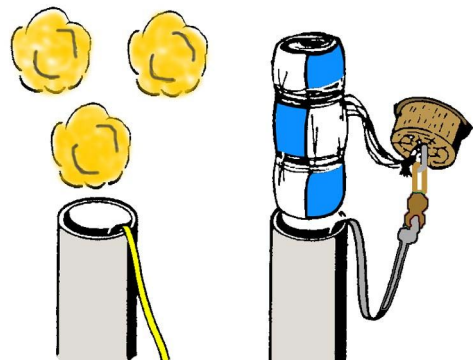

Fig. 14
- **Step 22** The correct method to pack your parachute into the model is shown in Fig. 14. If you are